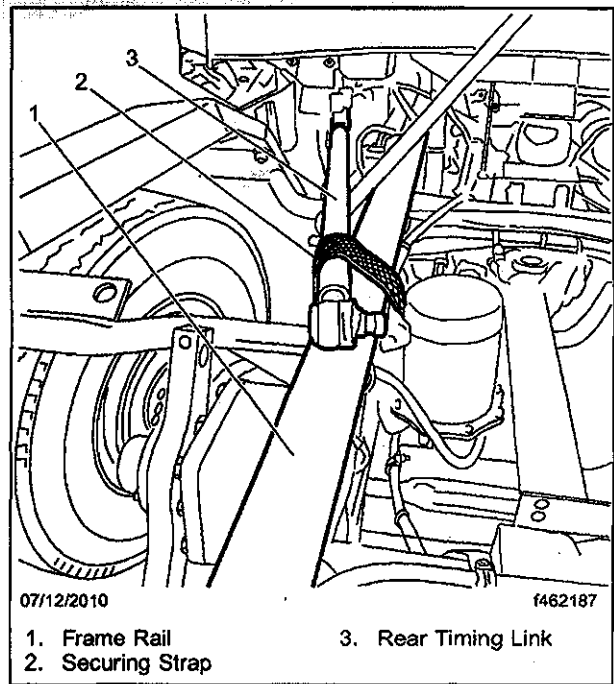

Fig. 2, Rear Timing Link Secure
6. Secure the upper rear timing link to the frame rail using a strap or tie. See Fig. 2.